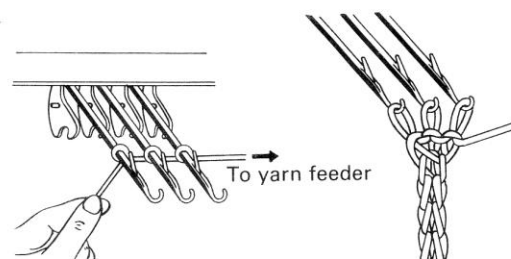

Fig.115
- b) Bring forward into position (E) 3 or 4 needles and, starting with the left end needle, wind the yarn counter-clockwise around stems of needles in position (E) as shown in Fig.115, and then thread up main feeder and overhead feeder unit. (see also Fig.115)